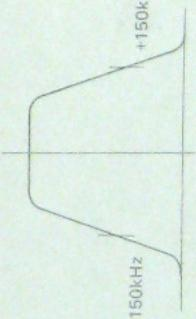

Fig. 3
- i) Adjust the FM IFT cores (T4, T5, T6) for maximum gain and symmetrical pattern (Fig. 3).
- s) i) Adjust the FM IFT cores (T4, T5, T6) for maximum gain and symmetrical pattern (Fig. 3).